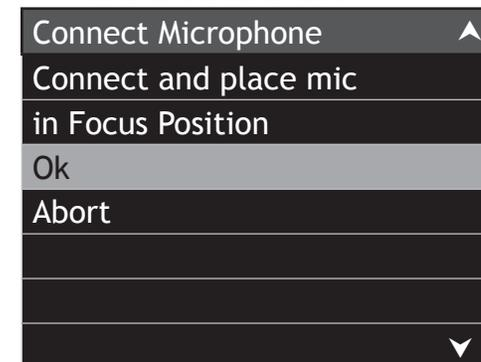

Figure 26
- At this time place the microphone in the focus location with the front of the microphone pointing towards the loudspeakers (center location between the Left and Right Loudspeakers). The height of the microphone should be at ear level. Refer to figure 26.